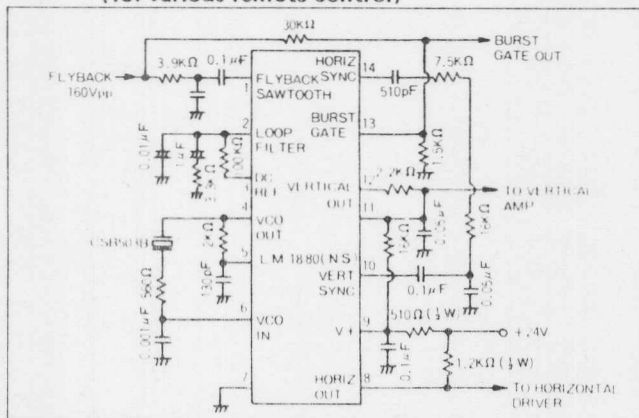

Fig. 34 Application to LM1880 (NS)
(3) Application to TV and VTR
a) Fig. 34 shows an application to IC LM1880 (NS) for the TV horizontal/vertical synchronizing signal generating circuit.
(4) Application to tone dialer